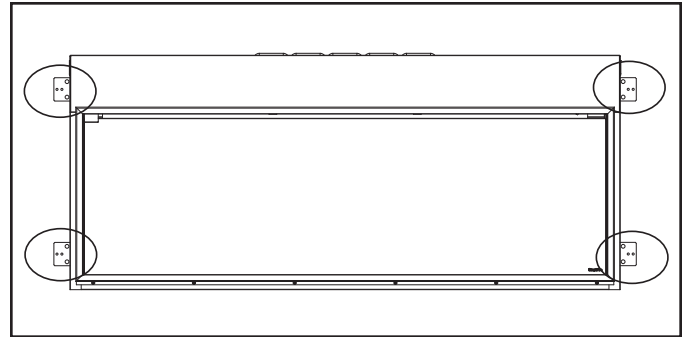

Figure 4.3 Mounting Brackets
4. Fold out the four mounting brackets. See Figure 4.3.